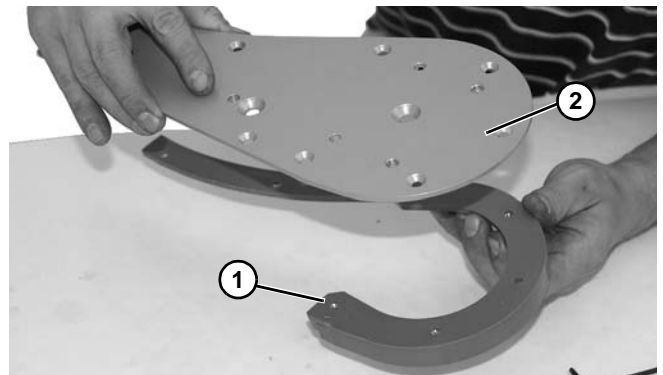

Figure 121
2. Remove retaining guide (**Figure 121, item 1**) from idler head plate assembly (**Figure 121, item 2**). Replace components, as needed.